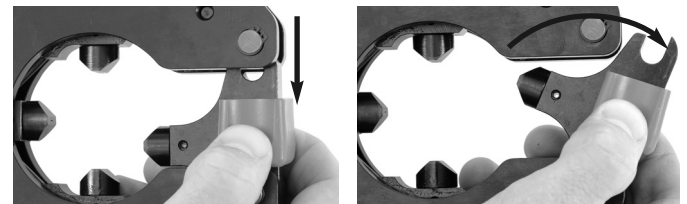

Figure 2 – Opening/Closing the Crimp Head
5. If needed, open the head by pushing the latch to the side and rotating out (Figure 2). Close the head around the connector to be crimped. Make sure that the latch is fully closed – do not operate the tool with the latch open or partially open.